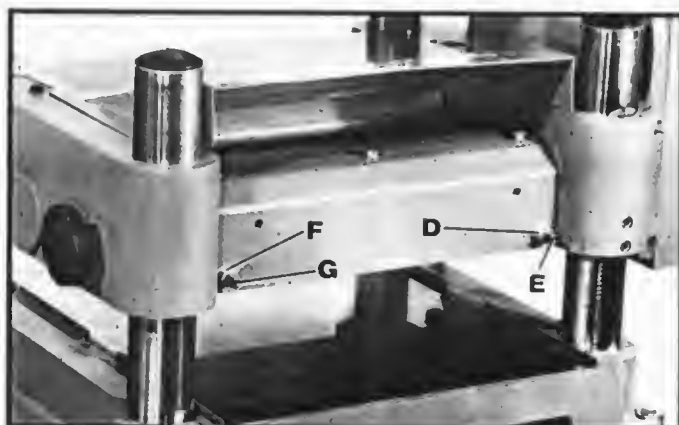

Fig. 41
5. If the height of the left end of the outfeed roll must be adjusted, tighten and/or loosen nut (D) Fig. 41, and the nut located inside the casting on stud (E) until the left end of the outfeed roll is properly adjusted.
6. Repeat this adjustment procedure to check and adjust the height of the right end of the outfeed roll making sure you are using a 0.020" feeler gage. If an adjustment to the height of the right end of the outfeed roll is necessary, tighten and/or loosen nut (F) Fig. 41, and the nut located inside the casting on stud (G).